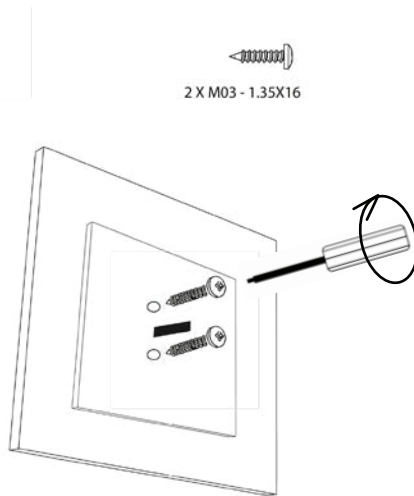

Fig. 3 Tightening the screws
4. Next, attach the control unit to the cabin wall with the two included screws (see Fig. 3).